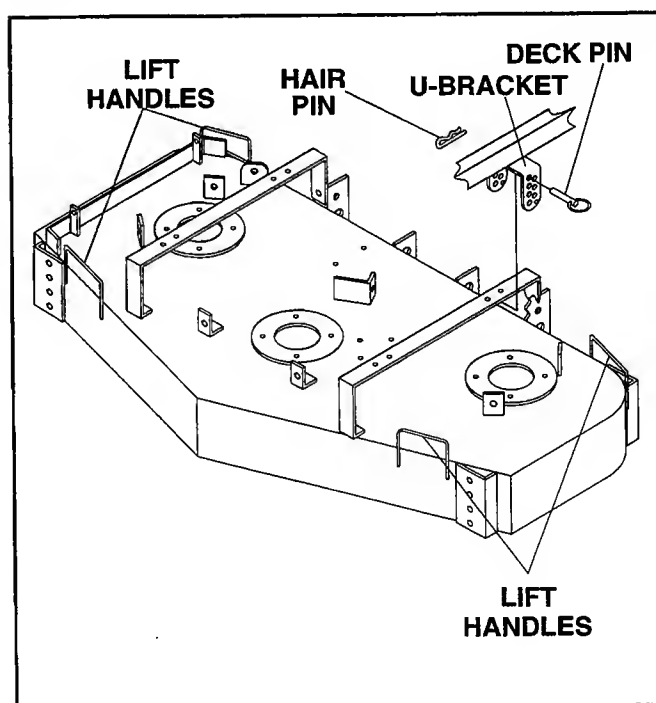

Figure 5
11. Using lift handles at deck corners (See Figure 5), lift deck to desired cutting height. Place pins in appropriate hole on deck U-bracket. Insert hair pins.